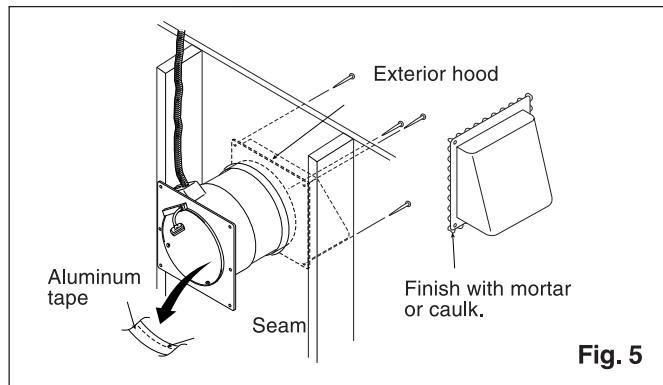

Fig. 5
- Insert the attached exterior hood from the outside to cover the wall sleeve, and secure it with four screws or nails. Cover the seam between the wall sleeve and exterior hood with aluminum tape, and apply mortar or caulking around the exterior hood flange to prevent rainwater from coming in. (Fig. 5)